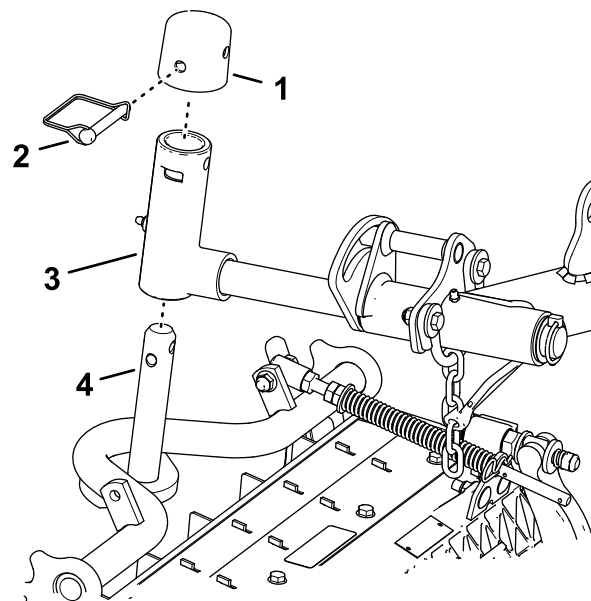

Figure 24
1. Slide a cutting unit under the lift arm (Figure 24).
Locking the Cutting-Unit Pivot for Cutting Grass on a Hill Side—Lock the cutting-unit pivots to prevent the cutting units from rotating downhill when cutting across the face of a hill. Use the hole in the lift-arm pivot shaft (Figure 24) to lock the cutting unit. Use the slot for a steering cutting unit.